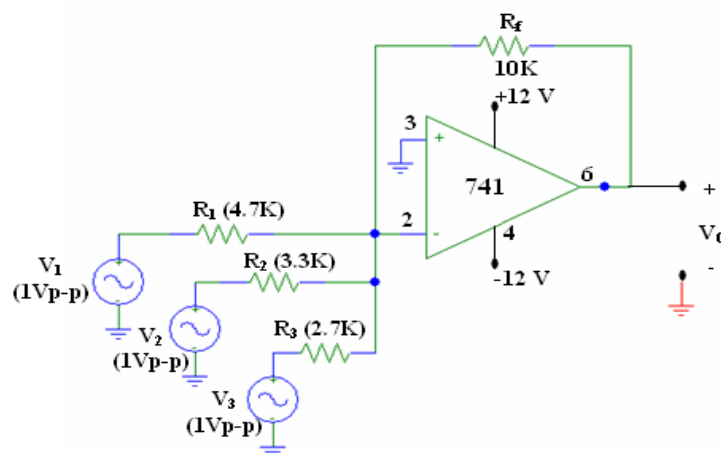

Figure 13.6: Circuit diagram of Inverting summer
13.6 Draw electronic circuit diagram of Inverting Summer as shown in Figure 13.6